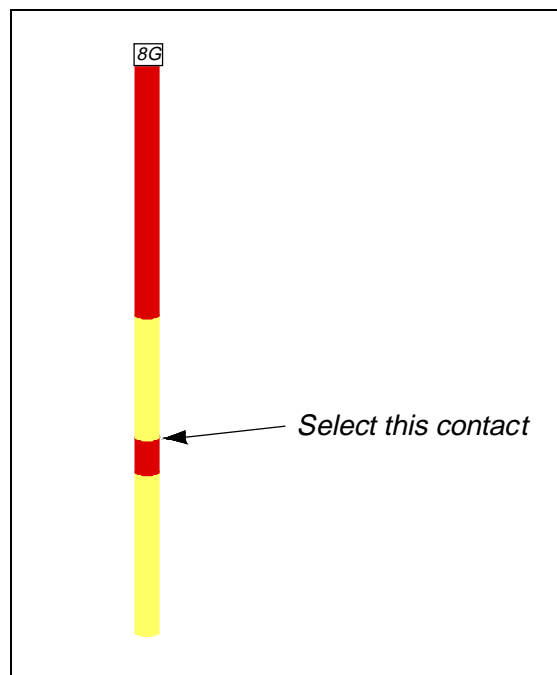

Figure 3.2 Contact on Hole 8G to be Selected.
2. Select the red/blue contact on hole 8G (see Figure 3.2).